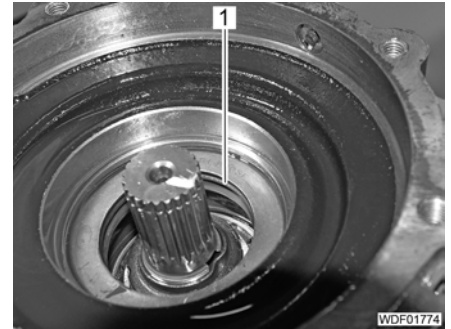

Fig. 410 Shaft sealing ring in the case
- Drive shaft sealing ring (Fig. 410,1) to the outside from the case.